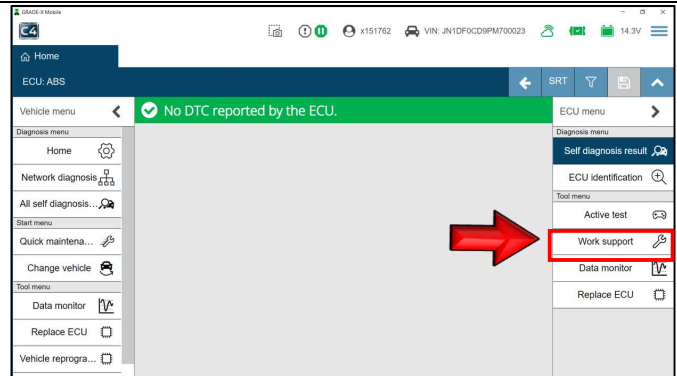

Figure 27
25. Select **Work Support**. (Figure 27)